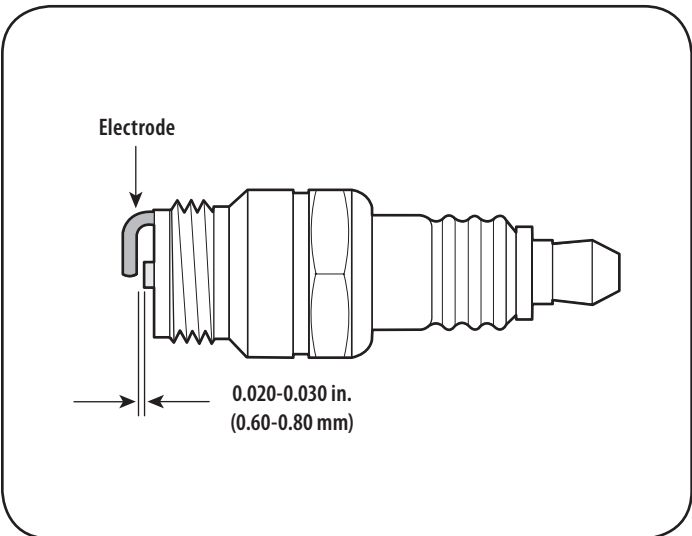

Figure 18
3. Measure the plug gap with a feeler gauge. Correct as necessary by bending side electrode. See Figure 18. The gap should be set to 0.020–0.030 inches (0.60–0.80 mm).